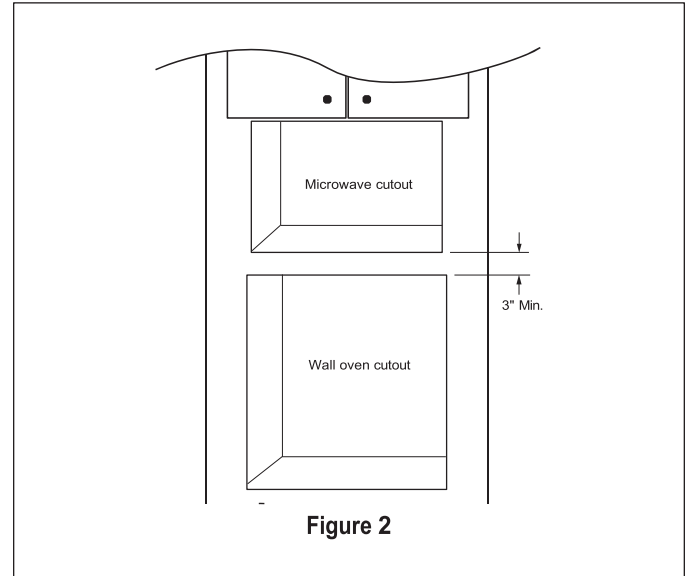

Figure 2
- Allow minimum 3" (76 mm) wood gap between the microwave oven cutout and the appliance cutout below the microwave oven. See Figure 2.